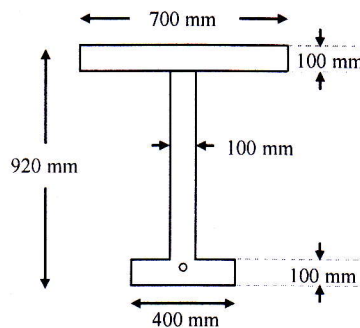

Figure 3
- 5.a) The midspan section of a composite beam is shown in **Figure 3**. The precast stem is posttensioned with an initial force 875 kN. The effective prestress after losses is taken as 750 kN. Moment due to weight of the precast section is 270 kN-m at midspan. After it is erected in place, the top slab is cast in place producing moment of 65 kN-m. After the slab concrete has hardened, the composite section is to carry a maximum live load moment of 400 kN-m. 15